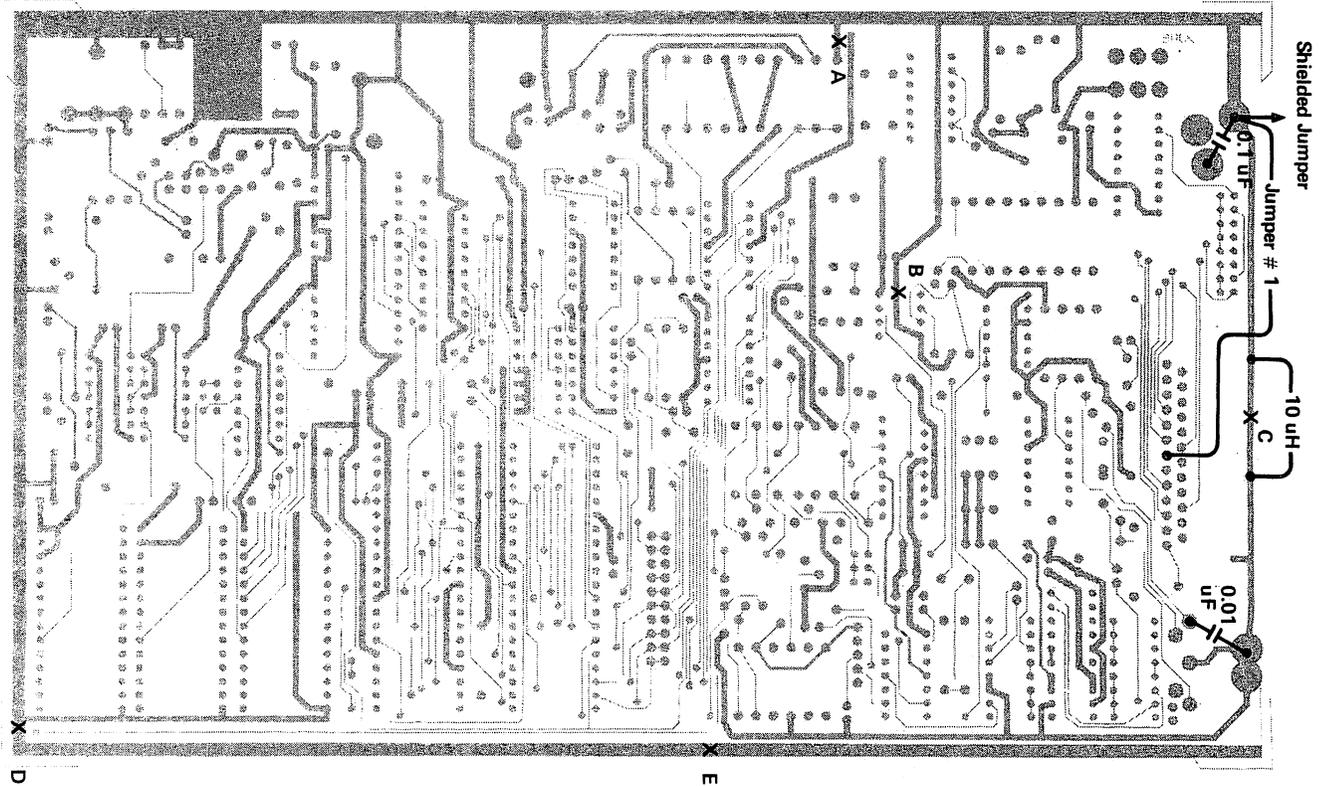

Figure 2 - TNC 2 REV 1 Solder Side
2. Cut ground trace of R4 (see cut A, Figure 2).
1. Break heavy ground trace between C21 and U8 pin 4 (see cut B, Figure 2).
3. Connect jumper from RS-232 connector pin 7 to power ground near on-off switch (see Jumper 1, Figure 2).
4. Break heavy ground trace under RS-232 connector (see cut C, Figure 2).
- Connect both the inner conductor and the shield to ground at the ground lug of P1 (see Figure 2).
1. Delete (bottom of board) ground trace from corner of board near J2 to pass-thru near U25 pin 15 (see cut D, Figure 2).
2. Cut the same trace (edge of board, bottom side) just before it becomes adjacent to the audio ground trace (near pass-thru near cathode end of CR15) (see cut E, Figure 2).
8. Install a 0.01 uF bypass capacitor at J2 pin 3 (PTT) to ground (see Figure 2).
9. Install a 0.1 uF bypass capacitor across the power input pin of P1 to ground (see Fig 2).